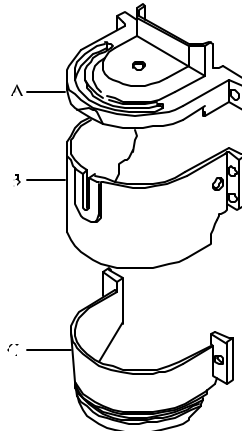

Figure 1
3. Using a 3 mm Allen wrench, **remove** 6 screws and B and C Sewing Head Covers. See *Figure 1*.